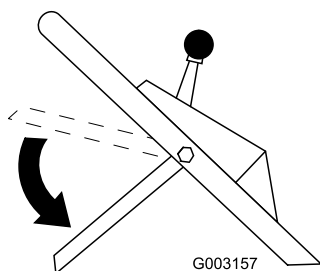

Figure 16
8. Move the control bar down to its lowest position (Figure 16).